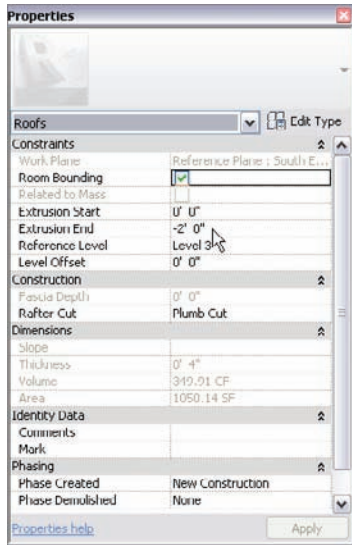

FIGURE 7.54 Setting the Extrusion End
3. In the Properties dialog box, set Extrusion End to -2'-0" (-600mm), as shown in Figure 7.54.